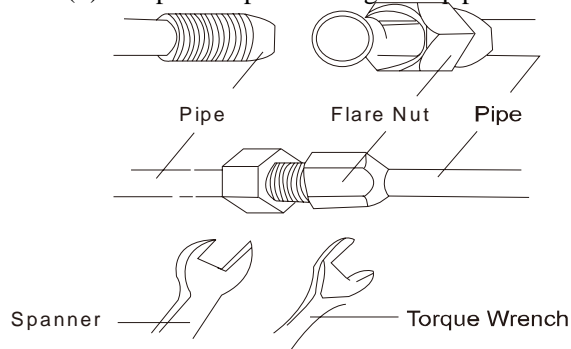

Fig6
- (1) If the liquid and gas stop valves which have the sign of A , B, C, D or E have not been connected to the indoor units, please turn off the screw cap with the spanner airproof.
- (2) Refer to Fig.6 for the moments of torque for tightening screws.
- (3) Let the flare end of the copper pipe point at the screw and then tighten the screw by hand.
- (4) After that, tighten the screw by the torque wrench unit it clatters (as shown in Fig.6).
- (5) The bending degree of the pipe can not be too small; otherwise it will crack. And please use a pipe tube bender to bend the pipe.
- (6) Wrap the exposed refrigerant pipe and the joints by sponge and then tighten them with the plastic tape.